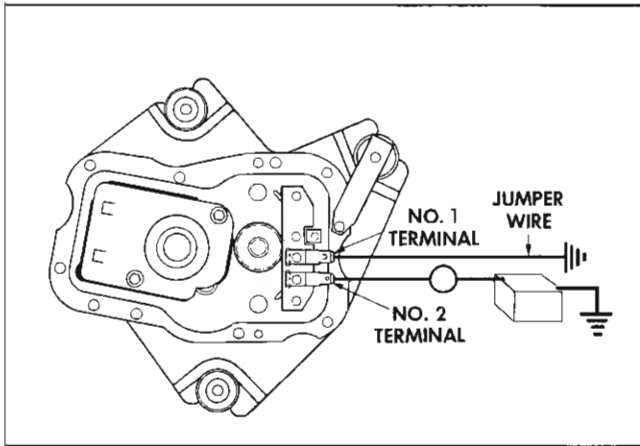

Fig. 11-77 Connections for Test Purposes
Fig. 11-77 shows the proper method of connecting jumper leads to the wiper so that it can be operated independently of the dash switch or car wiring for test purposes. **NOTE:** Specification table at end of this section lists current draw data.
2. If everything checks out in Step 1 and wiper fails to operate, disconnect wiring harness from wiper and check for 12 volts at harness terminal that connects to wiper terminal No. 2, Fig. 11-77.
3. Connect 12 volt supply to No. 2 wiper terminal and connect a jumper wire from terminal No. 1 to ground (Fig. 11-77). If wiper operates, the dash switch or wiring between dash switch and wiper is defective.
2. If wiper still operates in Step 1, disconnect wiring from wiper and connect 12 volt supply direct to wiper terminal No. 2 (Fig. 11-77). Do not connect any jumper wire to terminal No. 1.
Connect 12 VDC Power source and ammeter to wiper as shown in Fig. 11-77 and observe current draw and wiper operation. NOTE: Identify wiper part number from wiper motor end cap and select proper current draw from specification table.
Wiper crank arm stops rotating immediately when jumper wire is disconnected from wiper terminal No. 1 (Fig. 11-77). NOTE: When crank arm has reached park position the crank arm index grooves will line up approx. with the ridges on the gear box cover.
Wiper crank arm fails to stop in park position when jumper wire is removed from wiper Terminal No. 1. Fig. 11-77.
2. Check for grounded condition in the internal motor lead that connects to terminal No. 1, Fig. 11-77.